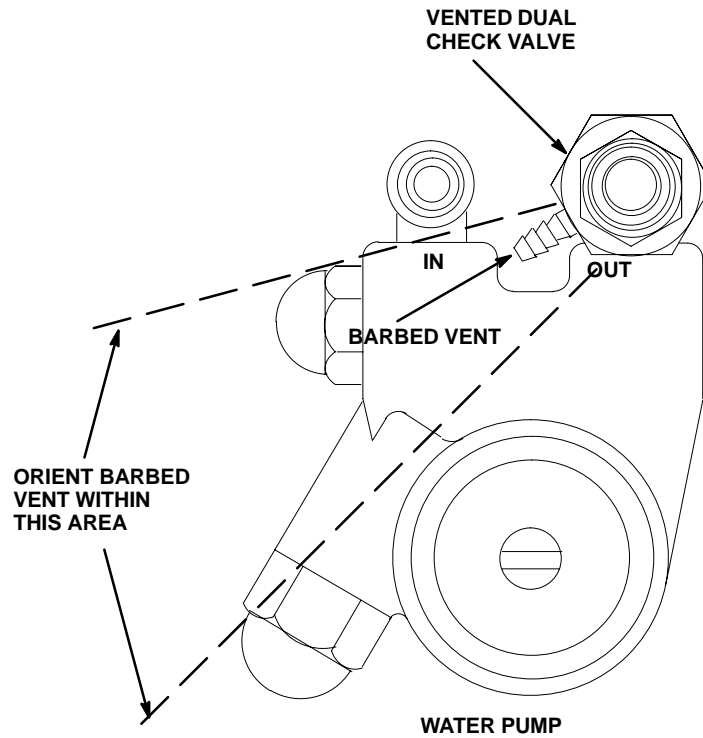

FIGURE 7. BARBED VENTED POSITION
1. Apply food-grade thread sealant to the pipe thread fitting on the inlet end of the vented dual–check valve, then install it in the water pump outlet port. Tighten the check valve so that the barbed vent fitting on it's side is in position as shown in Figure 7.